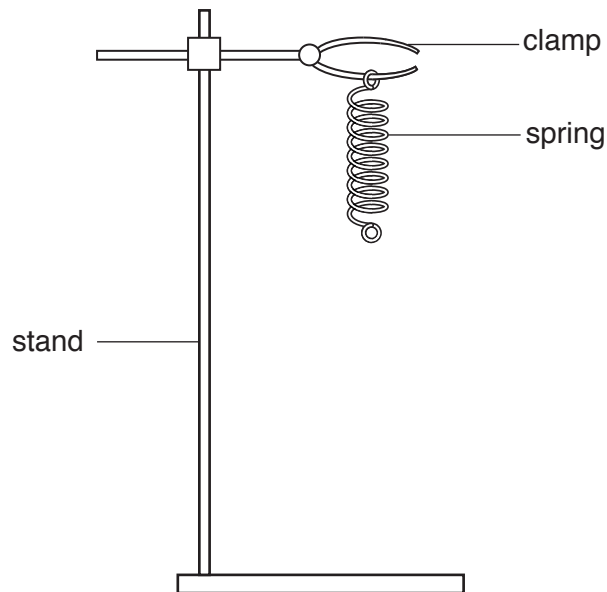

Fig. 2.1
A spring has been set up in a clamp for you, as shown in Fig. 2.1.
- (ii) Use a ruler to mark **on Fig. 2.1** the length l_0 you measured. [1]